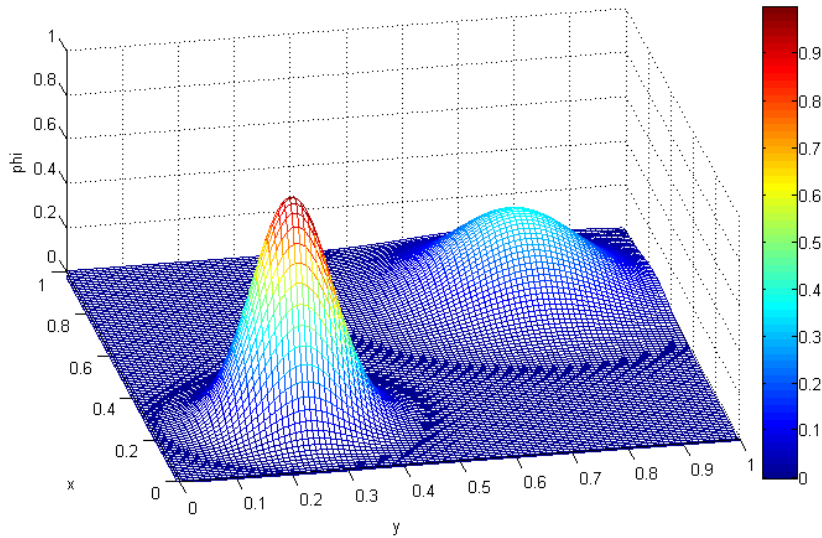

Figure 6: Solution initiale (et finale) du transport d'une gaussienne placée en $(x_0, y_0) = (1/4, 1/4)$.
qui correspond à la gaussienne d'amplitude 1 et de rayon σ_0 représentée sur la figure 6.
Figure 6: Base Objects: the 3 selected rectangles. Add Frozen (in French: Ajouter Corps Bloqué): it means that the three surfaces remain independent in the computational domain. You will be able to mesh each surface independantly in Ansys Meshing . Note that grey colored details cannot be modified.
- 2) In the Tree Outline of the modeling mode, select the sketch and click on **Concept** → **Surfaces From Sketches** from the menu bar. A surface sketch **SurfaceSk1** is created in the tree outline, whose details are shown on Fig. 6. To finalize the operation click on **Generate**.